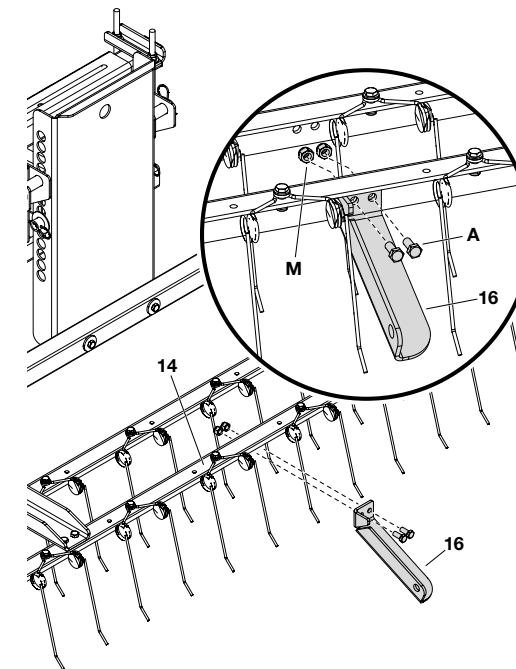

Figure 13
STEP 13: (SEE FIGURE 13)
- Slide a spacer (27), a 1/2" washer (35), and a wheel (2) onto the end of the axle.
- Slide a 1/2" washer (35) over the axle and secure the wheel with a 1/8 x 1-1/4" cotter pin (29), spreading the ends.